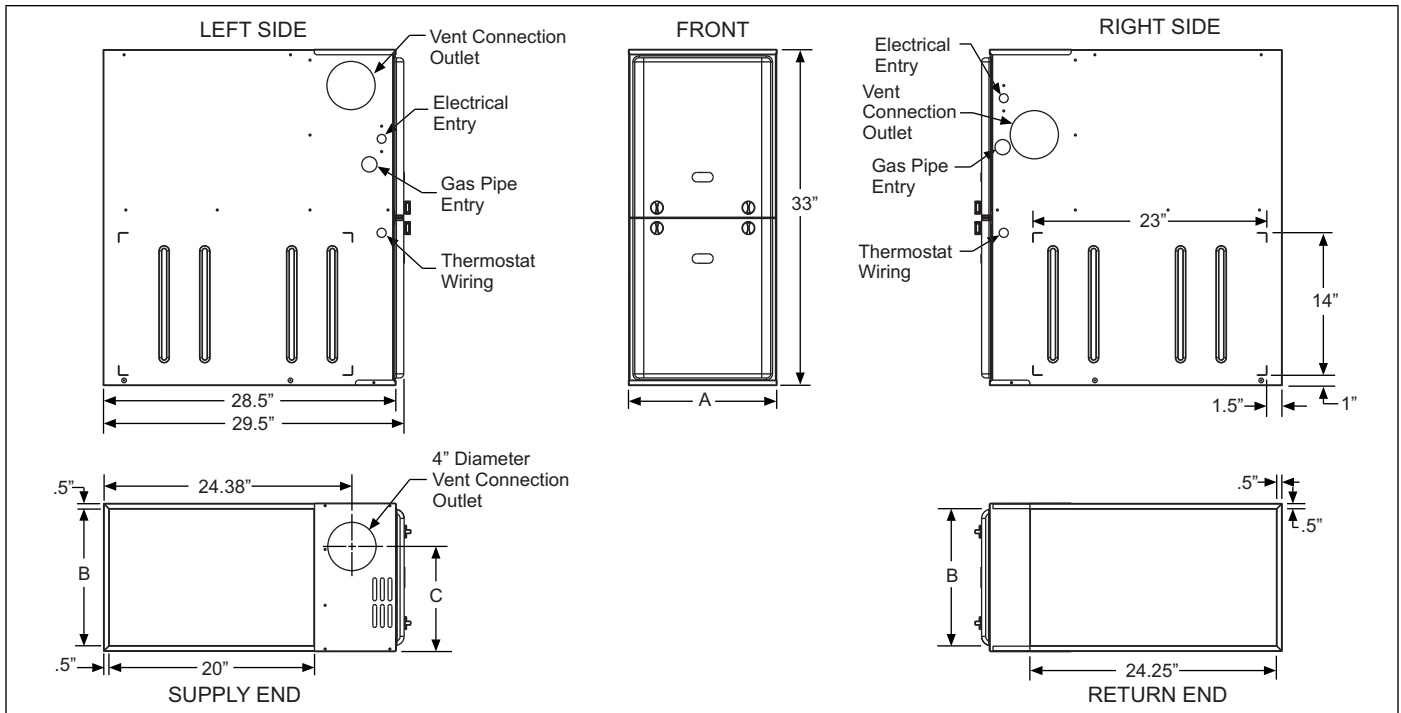

FIGURE 12: Dimensions
*Some accessories such as electronic air cleaners and pleated media may require a larger side opening. Follow the instructions supplied with that accessory for side opening requirements. **Do not** cut the opening larger than the dimensions shown in Figure 12.*
Gas piping may be connected from either side of the furnace using any of the gas pipe entry on both sides of the furnace. Refer to Figure 12.